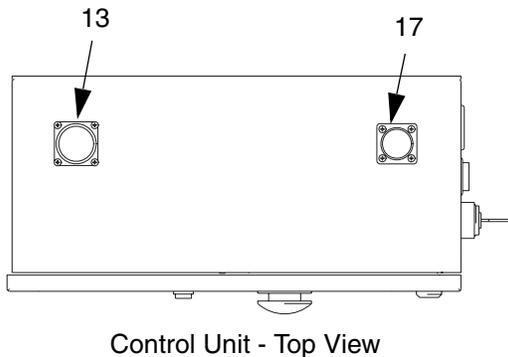

FIG. 10
1. Locate the receptacle on the top of the control assembly. See FIG. 10.
2. Connect the cable assembly to the automation I/O receptacle in FIG. 10.